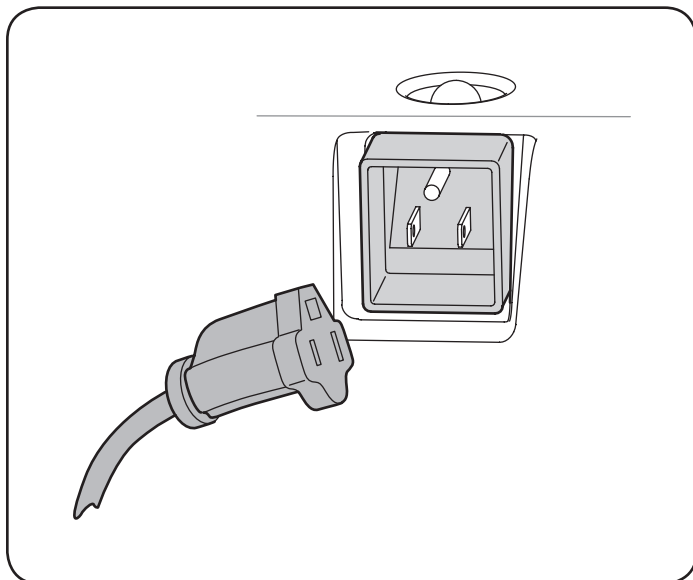

Figure 11
1. Plug the extension cord into the outlet located on the engine's surface. Plug the other end of extension cord into a three-prong 120-volt, grounded, AC outlet in a well-ventilated area. See Figure 11.